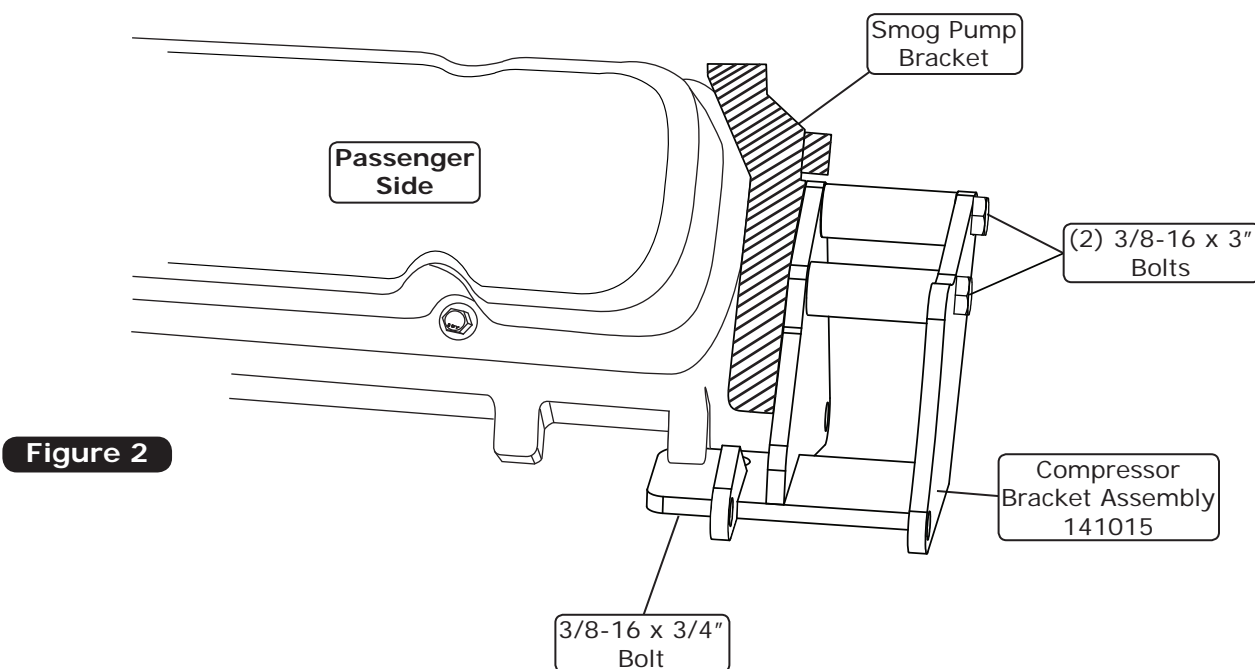

Figure 2
Install compressor bracket assembly to the front of the smog pump bracket and the side of the cylinder head using (1) 3/8-16 x 3/4" bolt and (2) 3/8-16 x 3" bolts (See Figure 2, below).